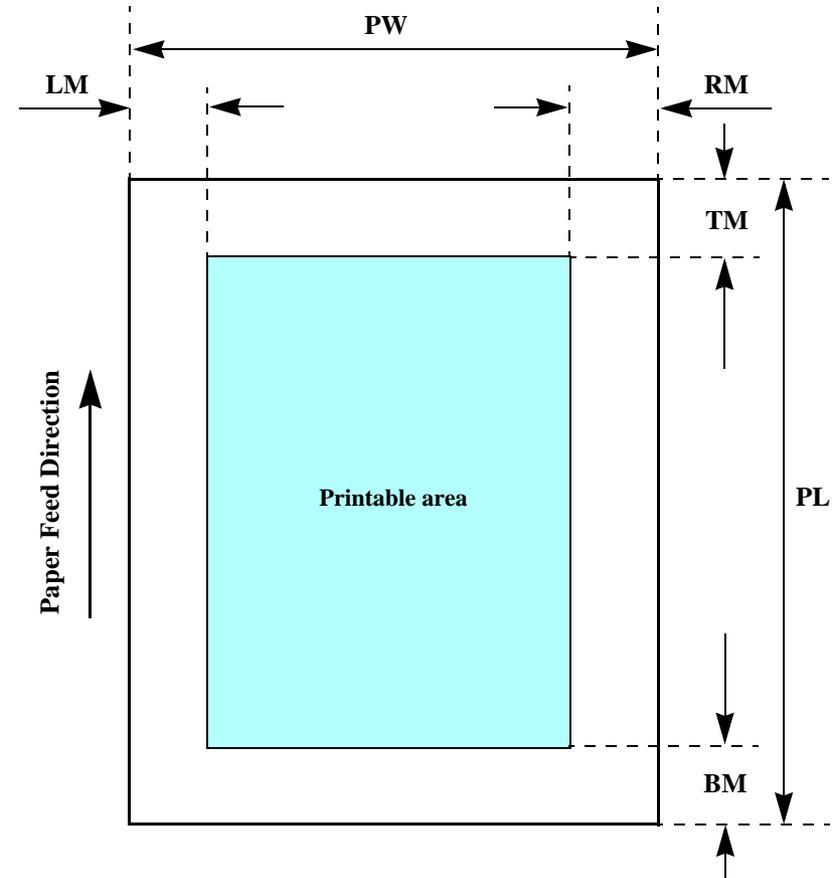

Figure 1-3. Printable Area Cut Sheet (Standard Printing)
The print quality is guaranteed for the print area above the 3 mm bottom margin. For paper width (PW) and paper length (PL), refer to “1.2.1.4 Paper Support” (p.14). Refer to the following table. As for each margin area, refer to Figure 1-3 (p.16).